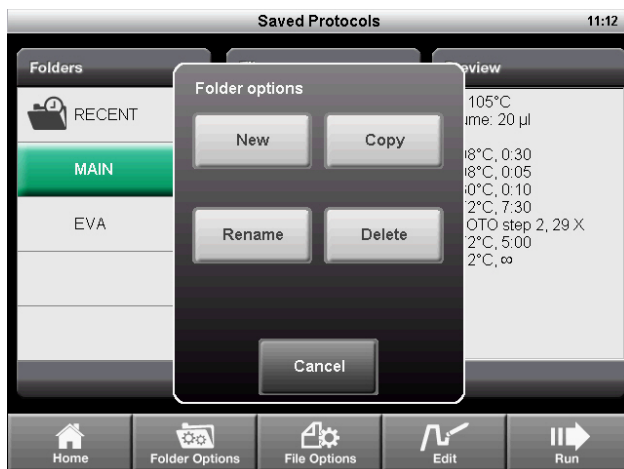

Fig. 22. Touch New to create a new folder on the cyclor.
1. From the **Saved Protocols** screen, touch **Folder Options > New** (Figure 22).
2. Touch **Folder Options > Copy** to copy a folder or **File Options > Copy** to copy a protocol file (Figure 22).
2. Touch **Folder Options > Delete** to delete an entire folder or **File Options > Delete** to delete a single protocol file (Figure 22).